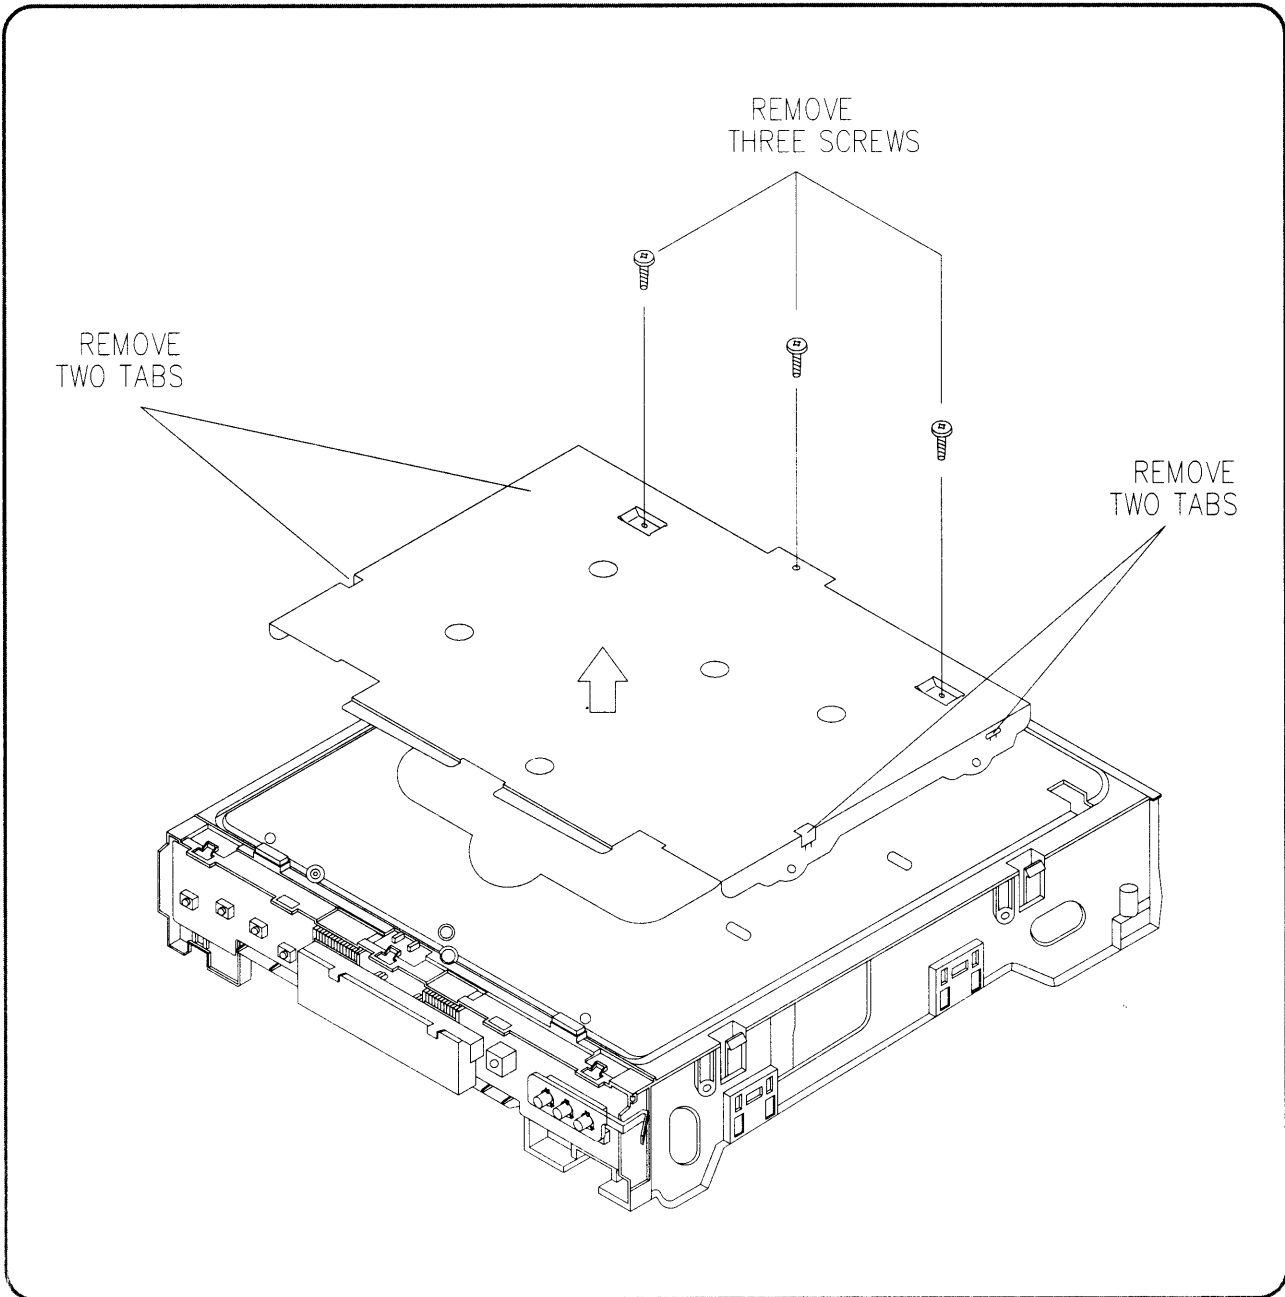

FIG. 3
3. BOTTOM COVER REMOVAL (FIG. 3)